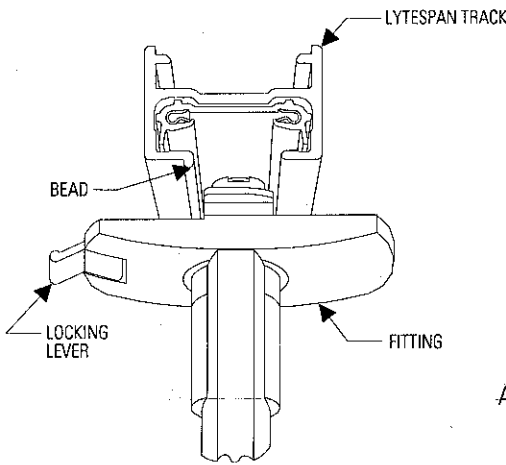

FIG. 1
1. Insert into LYTESPAN TRACK (see Fig. 1). LOCKING LEVER must be in same side of track BEAD.